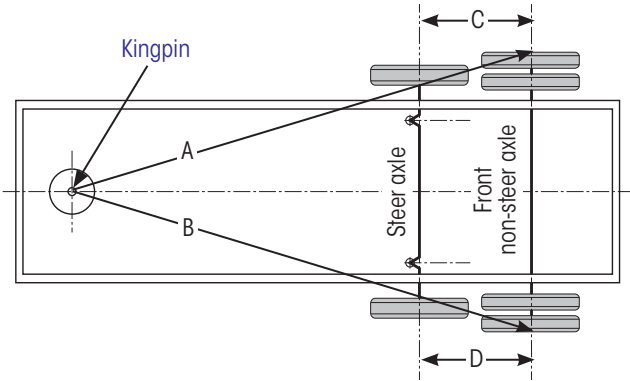

Figure 27: Self-steer axle alignment measurements
IMPORTANT: A self-steer axle must not be used as the primary front most axle for axle-axle alignment in these procedures (see Figure 27).
1. If not already done, **check and align** the front (non-steer) axle thrust angle (Figure 27, $A=B$) according to KINGPIN TO FRONT AXLE ALIGNMENT CHECK on page 12.
4. **Follow** AXLE-AXLE ALIGNMENT CHECK on page 15 (Figure 27, $C=D$) and ensure it is within specifications listed in Table 5 on page 13.